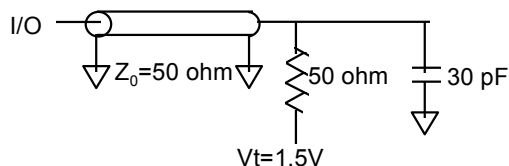

Fig.1 Output Load Equivalent
Output load	See Figures 1 and 2
5. Test conditions as specified with the output loading as shown in Fig. 1 unless otherwise noted.
14. Capacitance derating applies to capacitance different from the load capacitance shown in Fig. 1.
15. Capacitance derating applies to capacitance different from the load capacitance shown in Fig. 1.